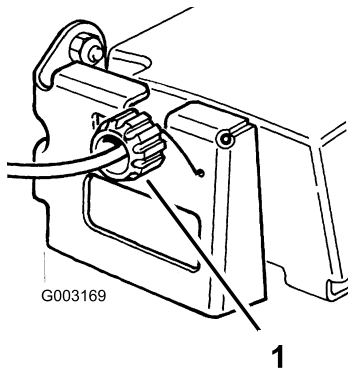

Figure 28
2. Rotate the control knob clockwise a half turn if the machine does not self-propel. If the machine creeps forward, rotate the knob a half turn counterclockwise to loosen the belt (Figure 28).